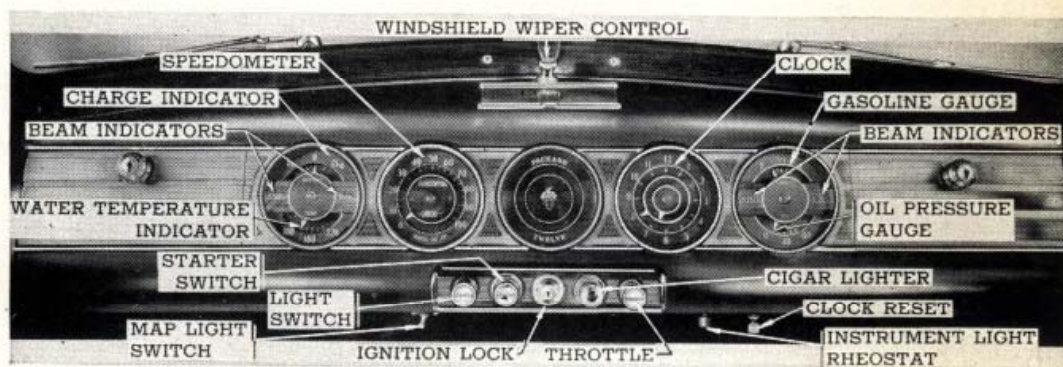

Fig. 1—Front View of Instrument Board
**The ignition lock** is located at the lower center of the instrument board as in Fig. 1. Make it a habit to withdraw key when leaving car.